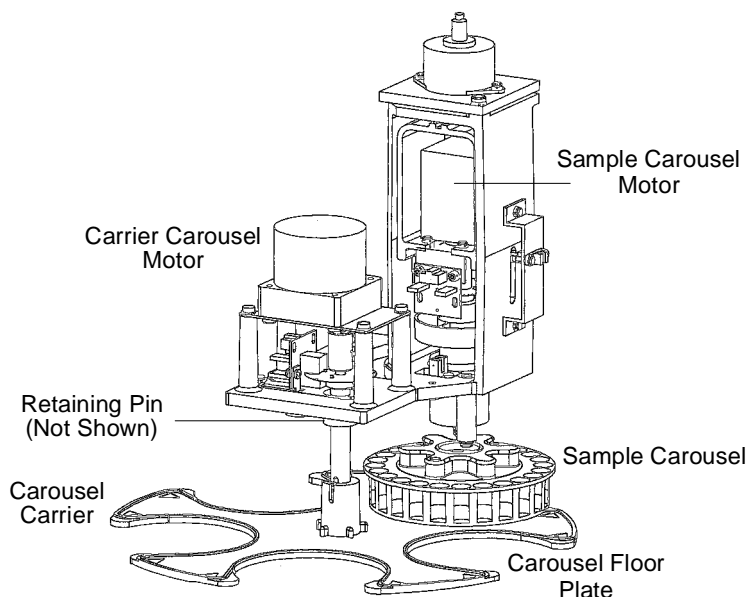

Figure 7-18 Sample Compartment Components
1. Push down about 1/4-inch on the spring-retaining pin in the center of the carousel carrier to loosen the carousel carrier (Figure 7-18).
2. Slide the carousel carrier toward the front of the unit, then remove the carousel carrier (Figure 7-18).
3. Remove the carousel floor plate and clean with a non-abrasive cleaner (Figure 7-18).